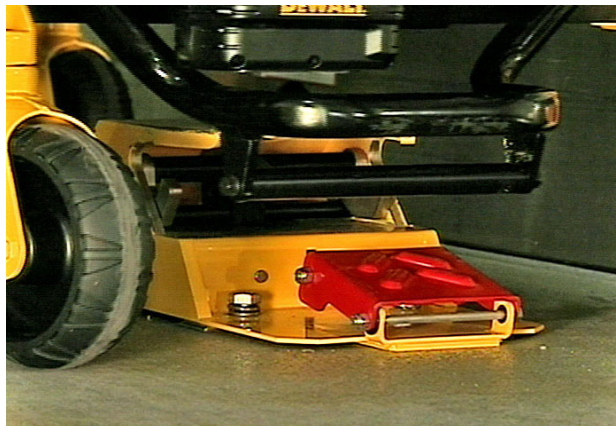

Figure 14 - Pedal fully depressed
1. Before attempting to engage the cot into the fastener, ensure that the pedal is fully depressed and the cot is completely lowered as shown in Figure 14.